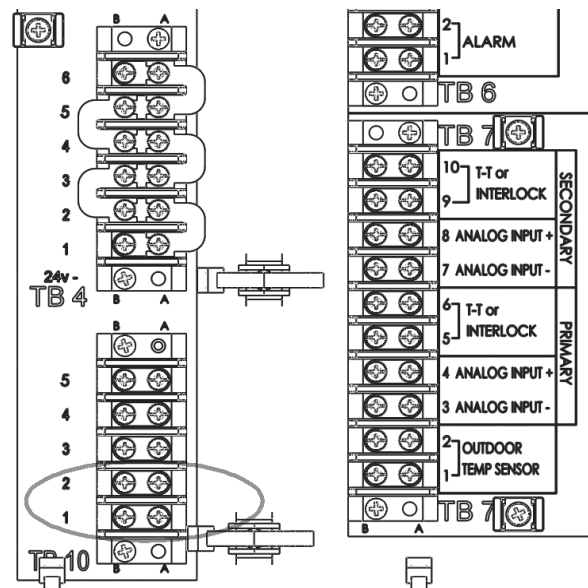

Figure 33. Disconnecting an Unused Touch Screen. Also see Figure 20 on page 32
3. Locate terminal block 10 (TB10). See Figure 33. Remove the jumper connecting pins 1 and 2 on TB10. You can also reference Figure 20 on page 32 for connections.